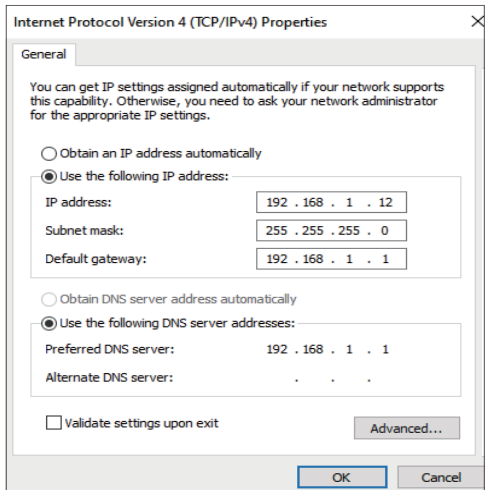

Figure 4.5
(3) Set the IPV4 address of the PC to obtain automatically and access the LAN, as shown in Figure 4.5.